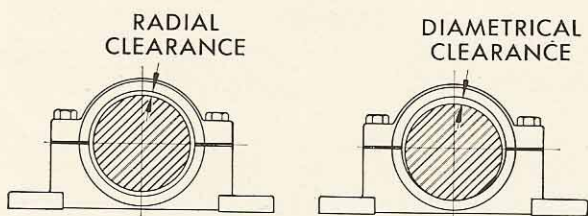

FIGURE 8-9
Clearance between shafts and their bearings, or between any round piece and the cylinder in which it is to fit, is usually measured on the diameter, or with the part inside touching at one side, as in (B) of Figure 8-9. Clearances could be specified as radial, however, or with the inside part centered, and the all-around clearance measured on the radius, as in (A) of the figure. When the kind of clearance is not specified, diametrical clearance is understood.